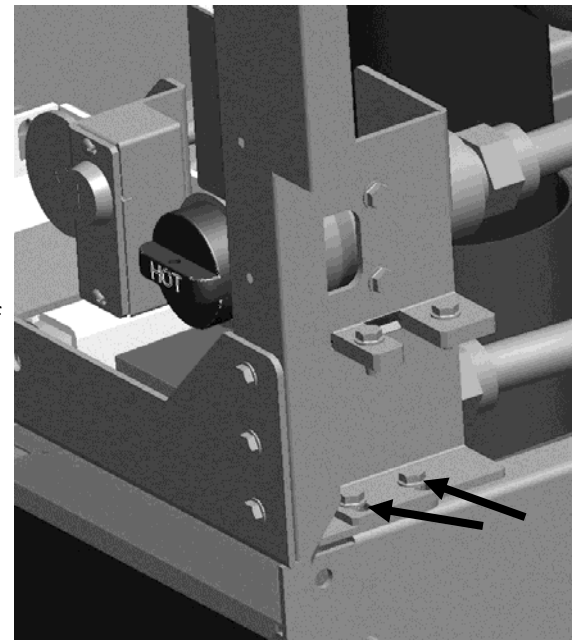

Figure 1: Install the pre-filter assembly, using existing holes. **See Arrows.**
5. Secure the pre-filter assembly to the cross member in the cabinet. **See Figure 1.**